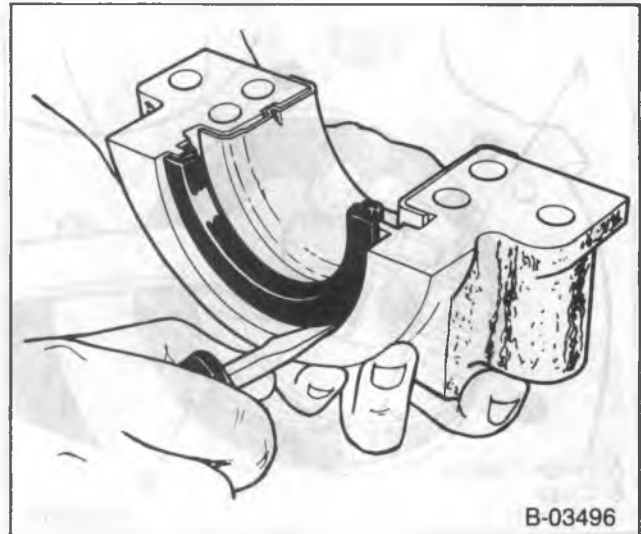

Figure 25—Removing the Rear Crankshaft Seal (7.4L Engines)
4. Upper and lower seal halves (130 and 131) (7.4 L engines). Pry the seal halves out with a screwdriver (figure 25).